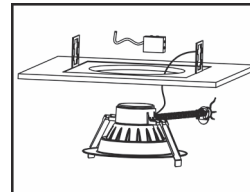

Fig. 3
- 4.) Open the J-box and cut away all wires connected to the ballast. Insert lamp conduit into the J-box and wire to power source (black to hot, white to neutral, green to ground) (**Figure 3**) Reattach J-box cover when done.
- 4.) Toggle the CCT Selector on the top of the unit to the desired color temperature (CCT) (**Figure 3**).